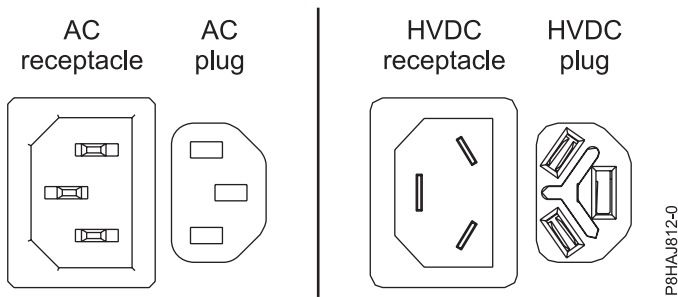
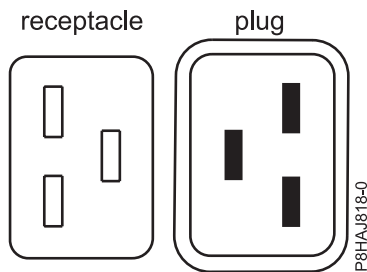
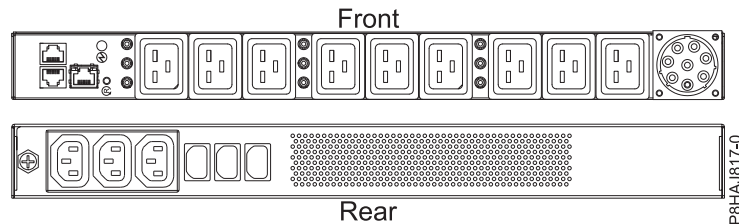

Figure 32. AC and HVDC connectors
Figure 33. Connectors for the 8408-44E system
Figure 34. PDU for the 8408-44E system
- The power cord is fastened to the system using the hook-and-loop fastener (A). If you are placing the system in a service position after disconnecting the power cords, then ensure that you unstrap the fastener.
Figure 32 shows the supported alternate current (AC) and high voltage direct current (HVDC) connectors. Figure 33 and Figure 34 show the supported connectors and power distribution unit (PDU) for 8408-44E.